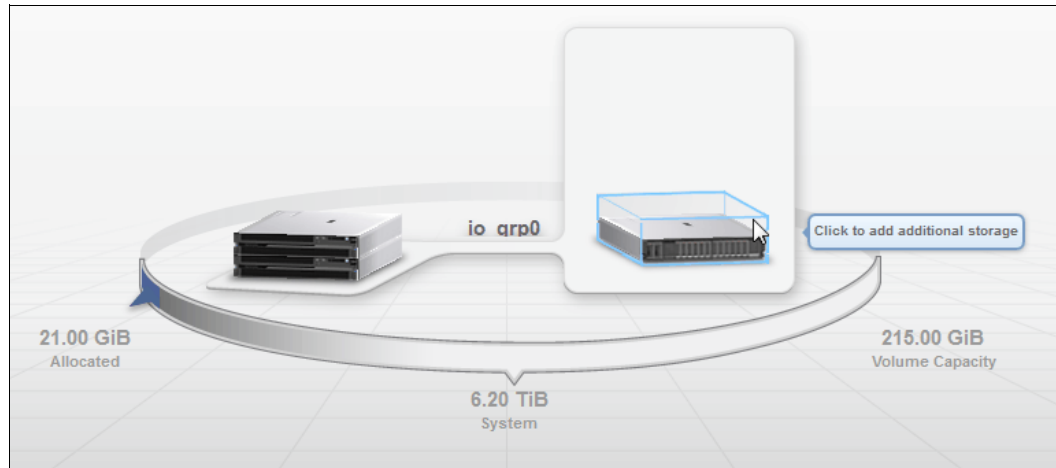

Figure 5-5 Single building block with unconfigured additional storage enclosure
2. Hover over the empty storage enclosure frame; the click to add additional storage message is displayed (Figure 5-5).